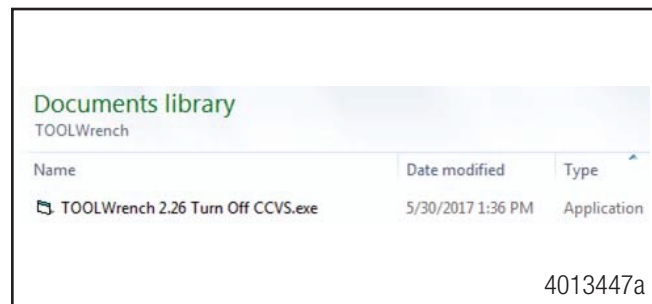

Figure 1
4. Select the file name and change the file extension from .XEX to .EXE. When finished, the file name will be TOOLWrench 2.26 Turn off CCVS.exe. Figure 1.